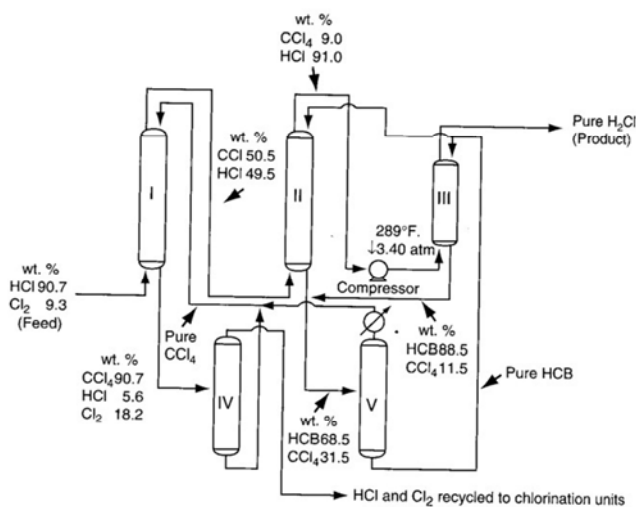

Figure SAT12.1P2
2. The Hooker Chemical Corporation operates a process in Michigan for the purification of HCl. Figure SAT12.1P2 shows the flow sheet for the Hooker process. The streams from the bottoms of the five towers are liquid. The streams from the tops of the towers are gases. HCl is insoluble in the HCB (hexachlorobutadiens). The various stream compositions are shown in Figure SAT12.1P2.